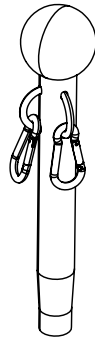

Figure 22: Push bar for the mobile structure - Patient foot end
2. Identify the two (2) push bars for the mobile structure (Figure 22).